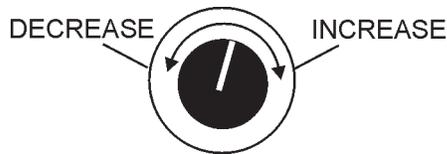

Figure 45. Voltage Adjust Control Knob
9. Use the voltage adjustment control knob (Figure 45) to increase or decrease the desired voltage.